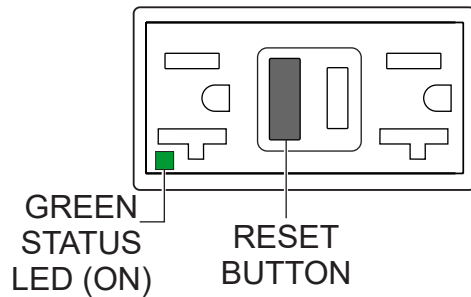

Figure 77. GFCI Receptacle (ON/Restore)
5. Press the **RESET** button (Figure 77) to restore power to the GFCI receptacle and verify that the status LED is **ON (GREEN)**.